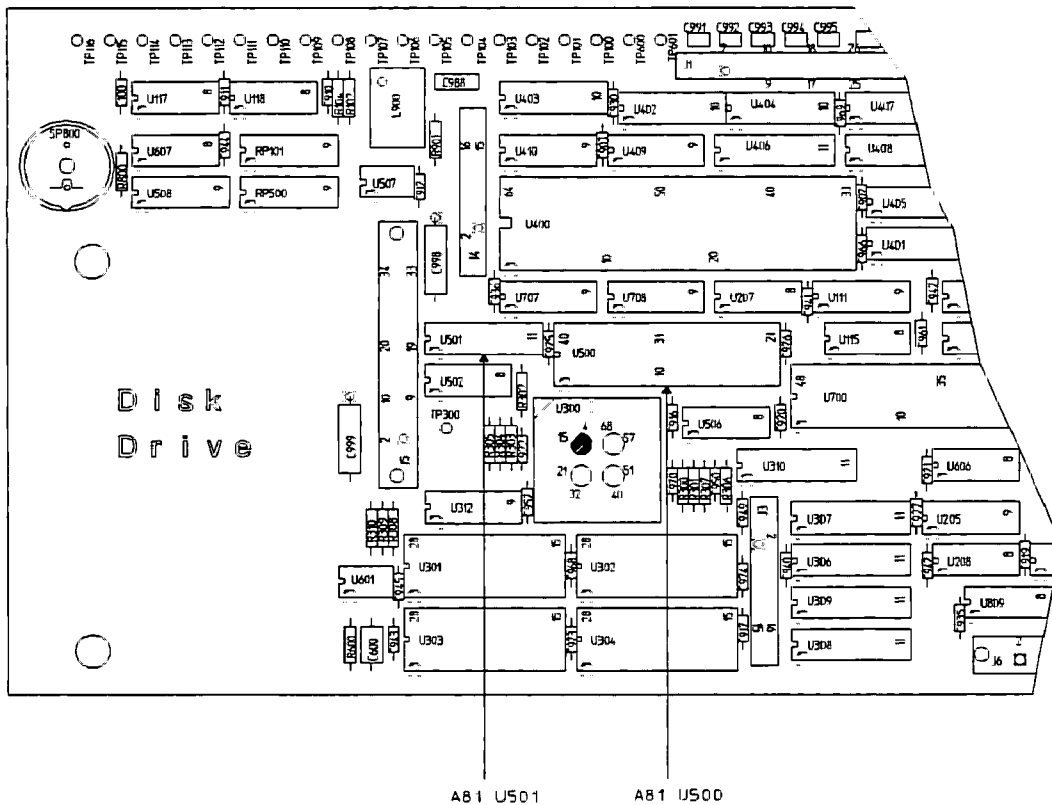

Figure 4-12. Disk Drive Controller Test Locations
- e. Using a logic probe, check that the TTL signals in table 4-13 are toggling (see figure 4-12 for test locations).